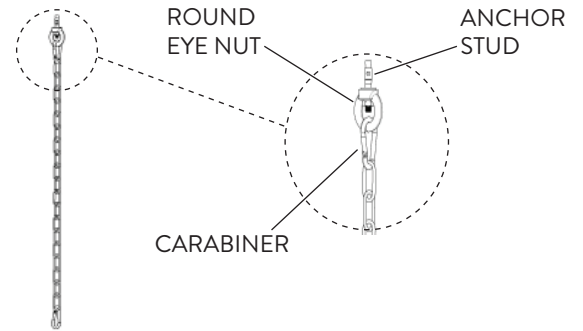

FIG. 17
- 1 The Optional Chain Mount can be used for all the FHZL fixtures. The Chain Mount includes the two Chains, Carabiners at each end, and Anchor Studs (Round Eye Nut Not Included) (Fig. 17).